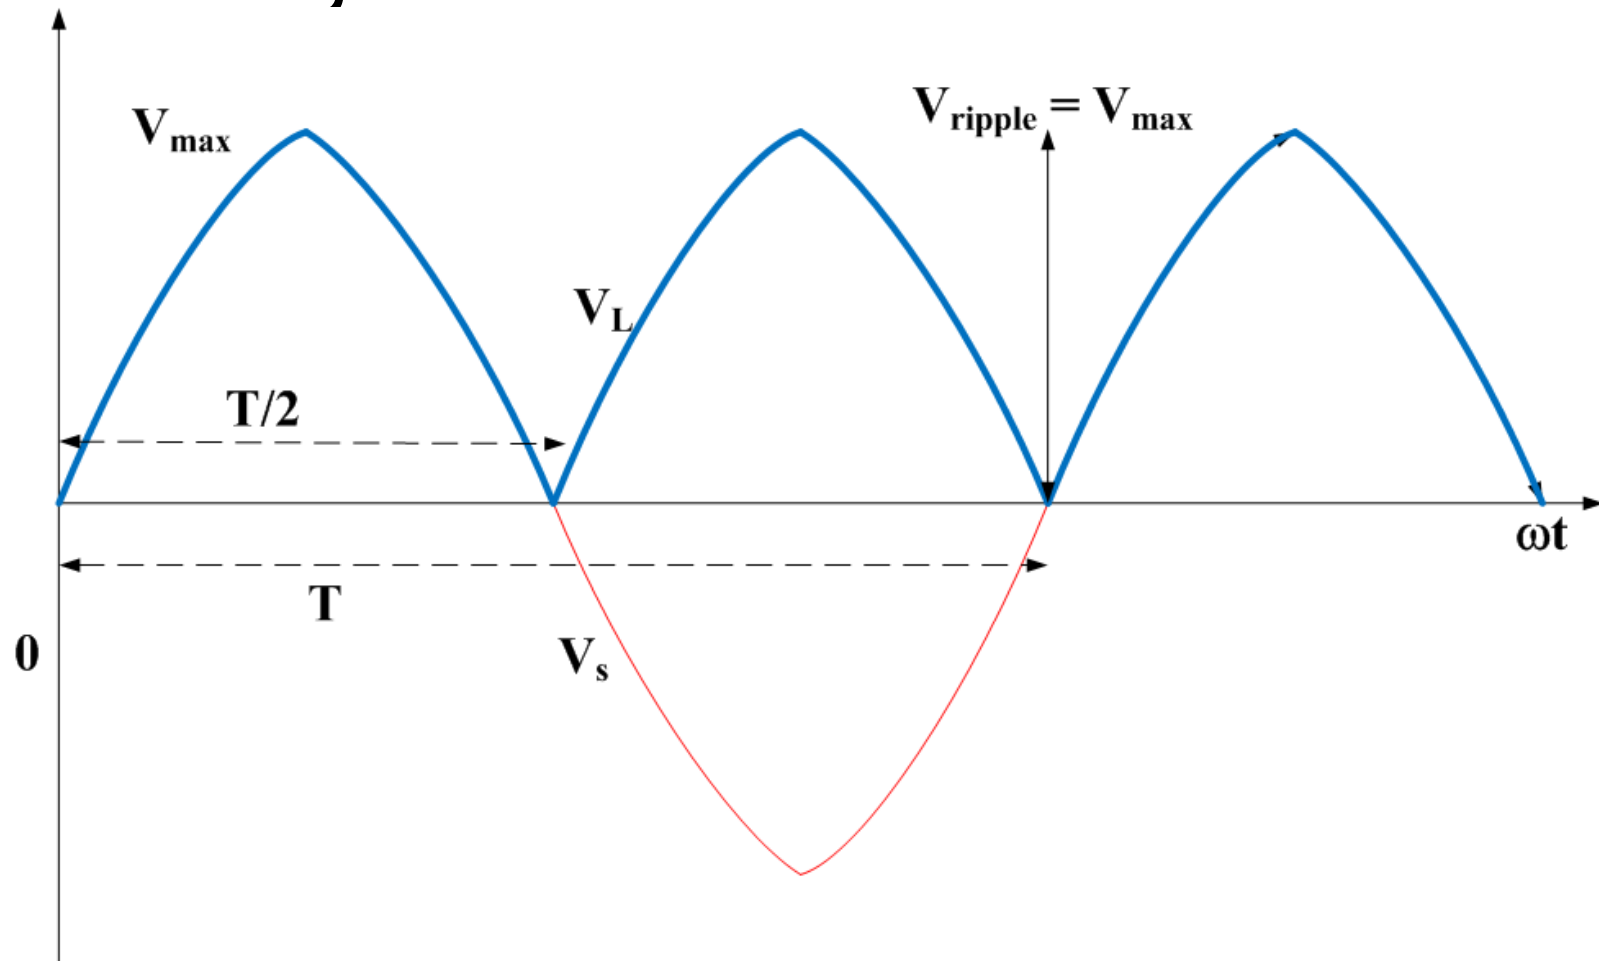

Figure 4.7: Source voltage and rectified output voltage (assuming ideal diode).
- The source and load voltage waveforms are as shown in Fig. 4.7.